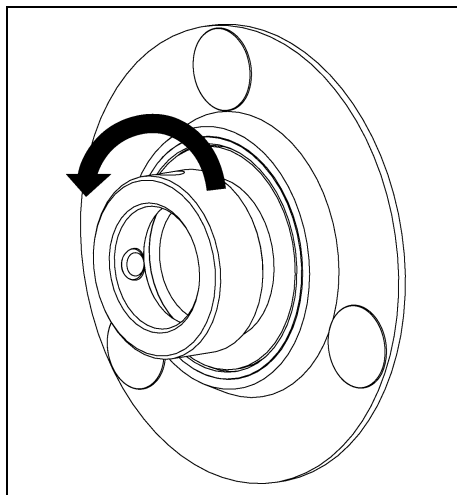

Figure 4B
Step 2: Loosen eccentric lock collars. (See Figure 4B.)